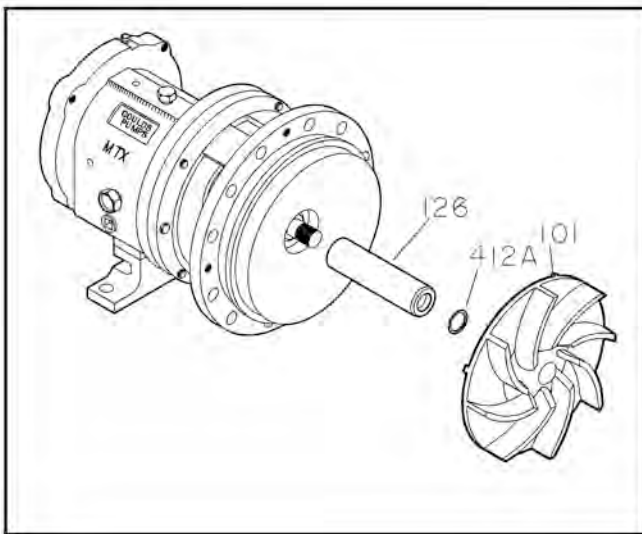

Figure 56:
10. Put wrench on shaft to stop rotation. When impeller (101) makes firm contact with sleeve (126), turn the wrench counterclockwise (viewed from impeller end of shaft) and slam it down. A few sharp raps will tighten impeller (101) properly (Fig. 56).